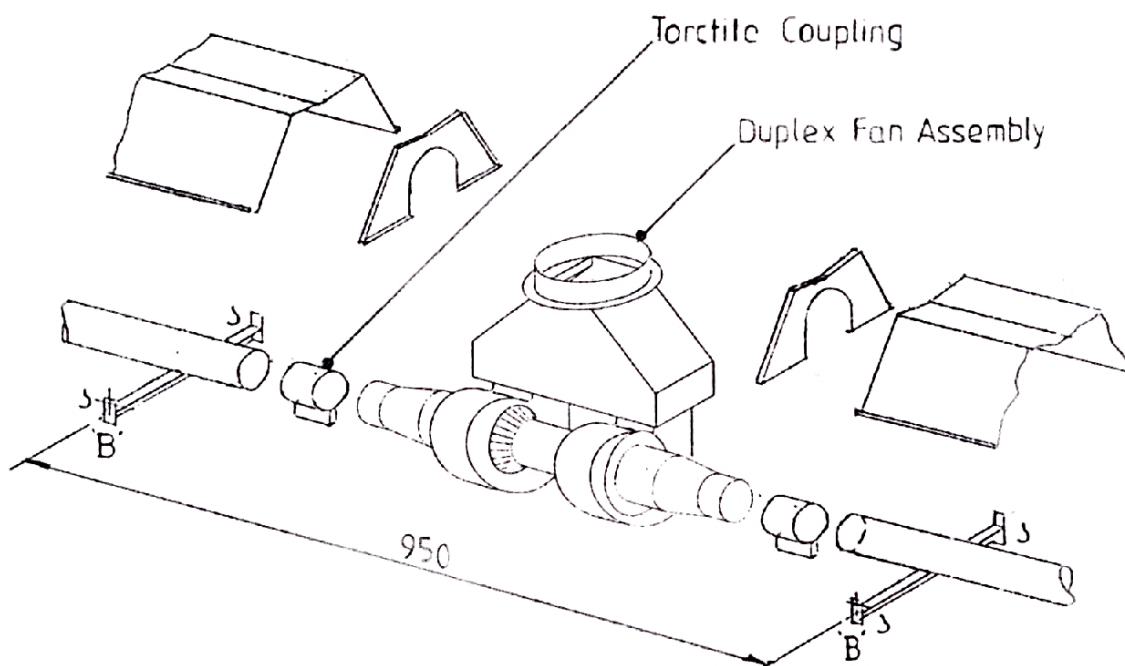

Fig. 10
- 4.1.8 Place one Torctite Coupling over the open end of each Radiant Tube, ensuring that they engage fully (up to the stop). Assemble the Duplex Fan Assembly to the Radiant Tubes, ensuring that it engages fully into each Torctite Coupling (up to the stops) and has the exhaust outlet positioned to suit the flue requirement, i.e. either vertical or horizontal to either side. Tighten the screws of the Torctite Couplings to secure the Duplex Fan Assembly to the two Radiant Tubes, taking care to support the Duplex Fan Assembly in line with the axis of the tubes. (see Fig. 10)